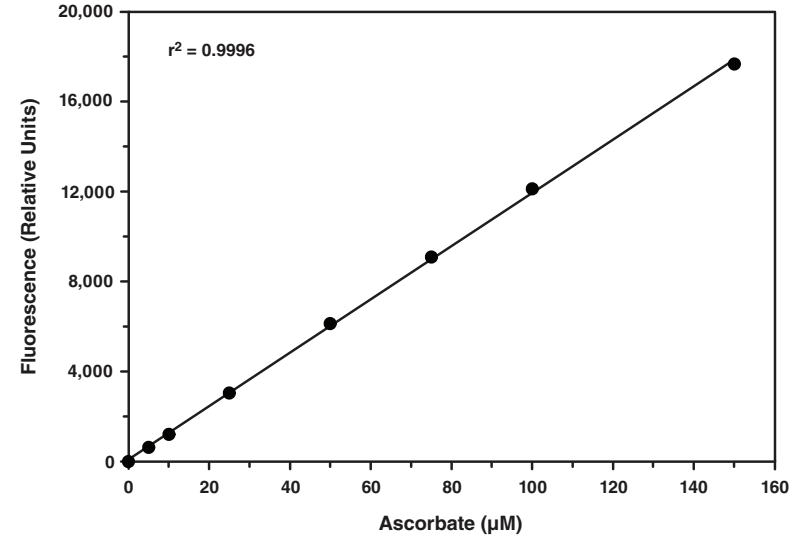

Figure 3. Ascorbate standard curve
4. Plot the corrected fluorescence values (from step 3 above) of each standard as a function of the final concentration of ascorbate from Table 2. See Figure 3, on page 19, for a typical standard curve.